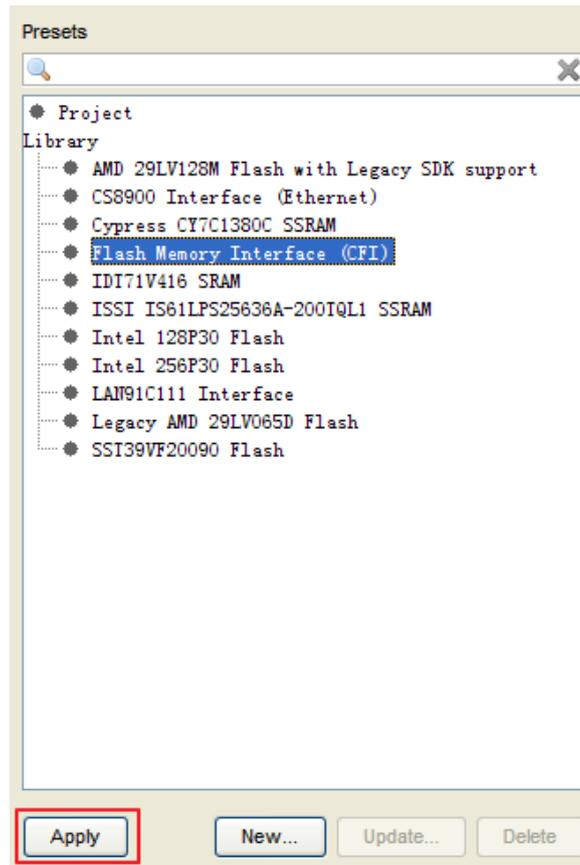

Figure 3-2 Select Library
2. Choose **Project > Library > Flash Memory Interface(CFI)** and click **Apply** as shown in Figure 3-2.